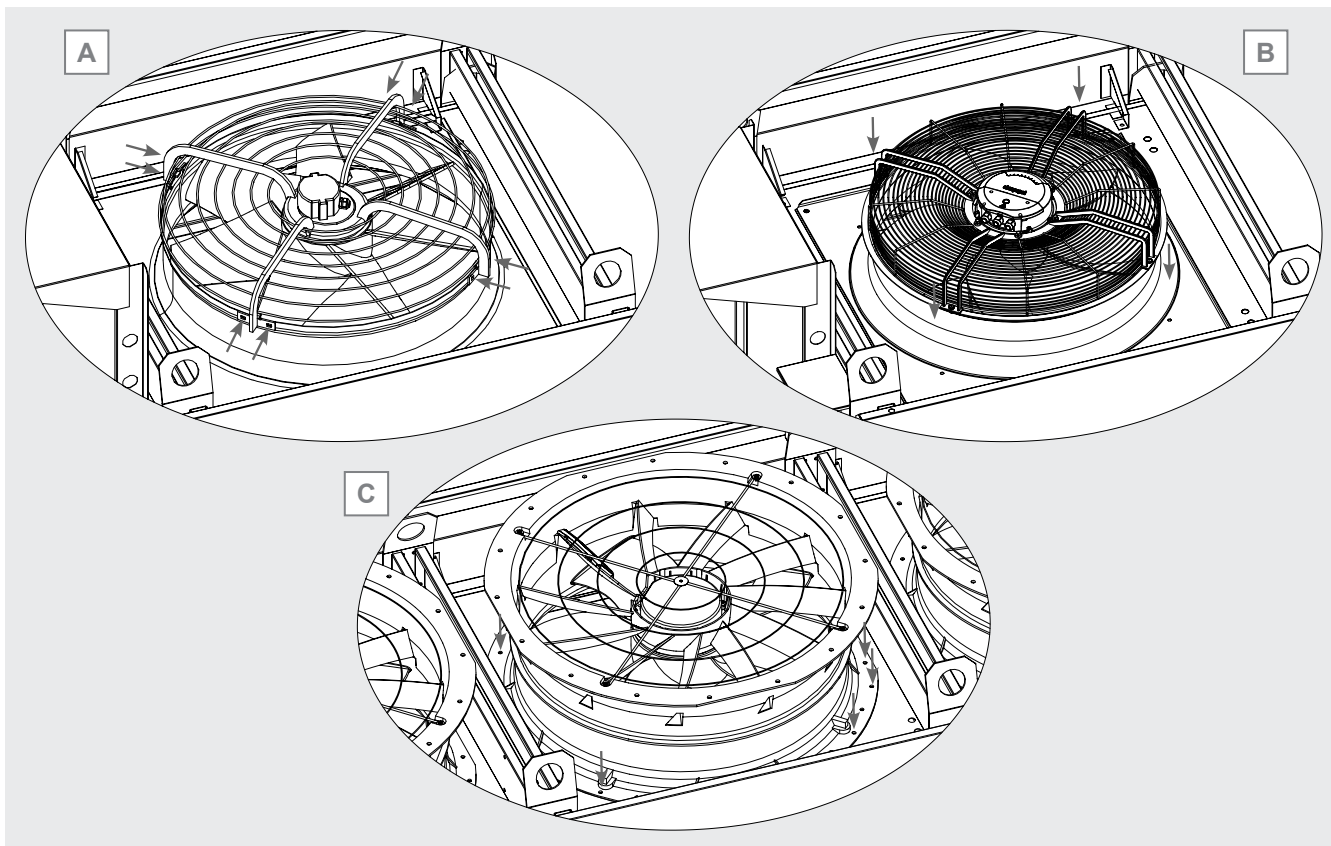

Figure 33
- radially attached motorfan: the motorfan grille is attached to the fan shroud installed on the model by radially attached screws. See Figure 33 A.
- planar-attached motorfan: the motorfan grille is attached to the fan shroud installed on the model by screws vertically fixed on a flange. See Figure 33 B.
- motorfan with integrated fan shroud: the motorfan is integrated into a fan shroud that is attached directly to the model's conveyor. See Figure 33 C.
- radial and planar-mounted motorfan: locate the screws that attach the motorfan grille to the fan shroud and remove them completely. Store them in a suitable place. See Figure 33 A and B.
- motorfan with integrated fan shroud: locate the screws that attach the fan shroud to the model and remove them completely. Store them in a suitable place. See Figure 33 C.